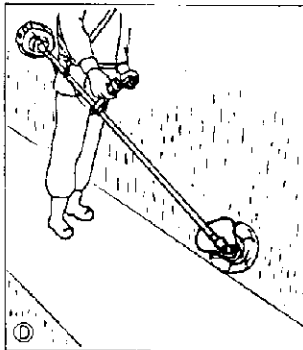

Fig. 6
2. Tilt the unit vertically as illustrated and use only the line tip to remove unwanted growth. See Fig. 6